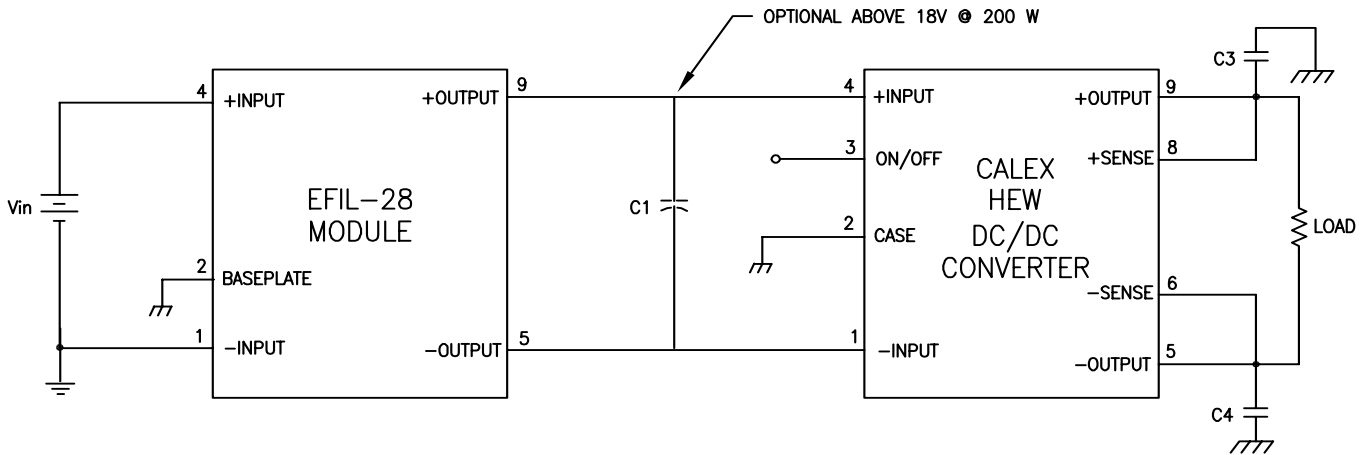

Figure 2. EFIL-28 with Calex HEW Series DC/DC Converter
- (1) Reverse Polarity Protection: Reverse polarity will NOT damage the module. However, precautions must be taken to ensure downstream circuitry is protected. Calex HEW series DC/DC converters implement reverse polarity protection.
- (2) Refer to the CALEX Application Notes for information on fusing.
- (3) Thermal impedance is tested with the module mounted vertically and facing another printed circuit board 1/2 inch away.
- (4) Contact the factory for higher output power capabilities.
- (5) Due to the negative input resistance characteristics of DC/DC converters, the addition of an input filter may cause instability. To ensure a stable system, the output impedance of the filter must be smaller in magnitude than the converter input impedance. This can be ensured with the addition of an external capacitor connected to the input of the converter. Under normal operating conditions, specified as 28VDC input at 200 Watts, the EFIL-28 does not require any external capacitance.
- (6) Due to the added inductance (50 μH) of the Line Impedance Stabilization Network (LISN) used in MIL-STD-461E testing, capacitor C1 is required to maintain converter stability. See Figures 2 and 3.
- (7) Measurements comply with the requirements set forth in MIL-STD-461E, CE101 and CE102.
- (8) The case thermal impedance is defined as the case temperature rise over ambient per package watt dissipated.
- (9) Isolation is measured by applying a DC voltage between pins and baseplate.
- (10) Calex CBAM™ modules are designed to withstand most solder/wash processes. Careful attention should be used when assessing the applicability in your specific manufacturing process. The CBAM™ modules are not hermetically sealed.
- (11) Torque fasteners into threaded mounting inserts at 12 in.oz. or less. Greater torque may result in damage to the unit and void the warranty.
- (12) MTBF is calculated based on MIL-HDBK-217F under the following conditions: